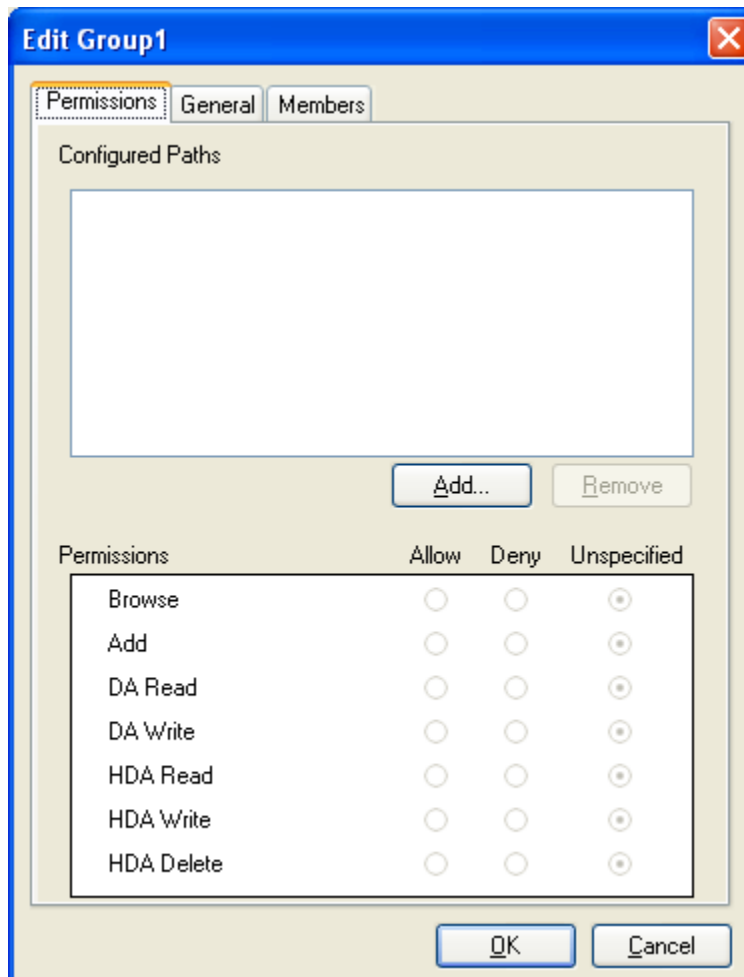

Figure 83 - Edit <Groupname> Window (Permissions Tab)
- The **Edit <Groupname>** window (Figure 83) appears (for NT Groups, there is only the **Permissions** tab). Follow the instructions in the **Edit Group** section for adding permissions.
6. The **Edit <Groupname>** window (Figure 83) appears. Follow the instructions in the **Edit Group** section for adding permissions.
2. The **Edit <Groupname>** window (Figure 83) appears.